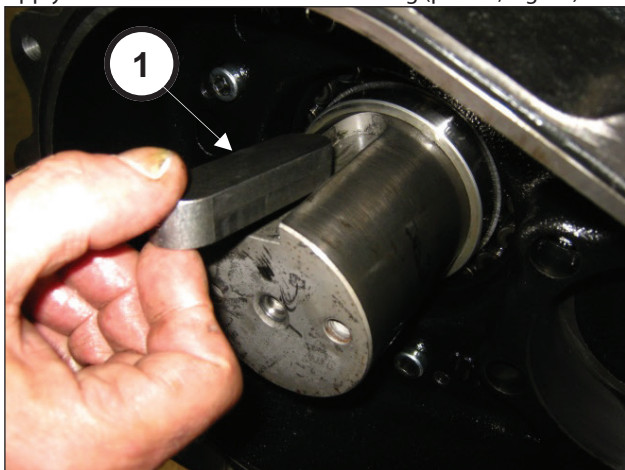

Fig. 61
Apply tab 22x14x100 in the shaft housing (pos. ①, Fig. 61).